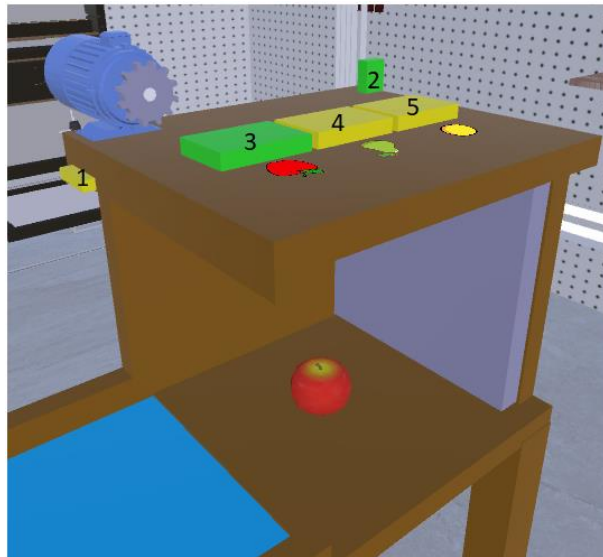

Figure 2: Start Station/ Station 1 – Sensors and associated Pins
- Sensor 3, 4 and 5 will be high when it detects apple, pear and lemon, respectively at the zone shown in figure 2. (Example – Pin 3 is high because it's an apple inside the station).